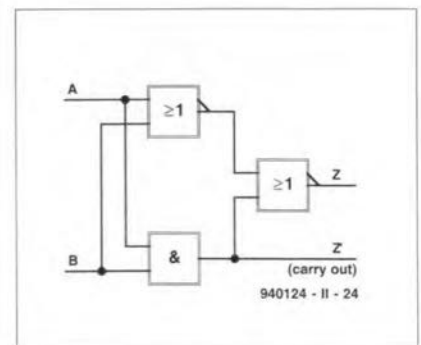

Fig. 14.
This is the truth table for AND. Since we need an AND gate for the carry digit, we do not need an XOR gate as such; the combination of AND and two NORs in **Fig. 14** performs the XOR function. This circuit is known as a *half-adder*, because its operation is restricted to adding two one-digit binary numbers.
2. Check that the circuit of Fig. 14 adds correctly by writing out its truth tables.